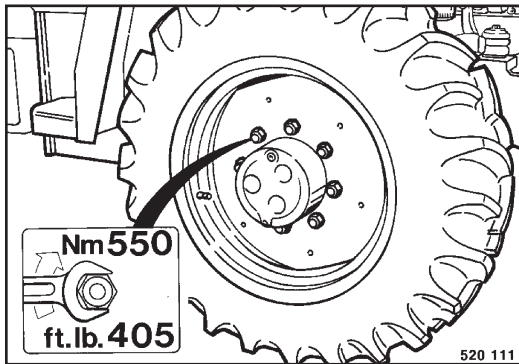

Fig. 170
- Attach the wheel (Fig. 170) and tighten the wheel nuts crosswise with 550 Nm (405 ft. lb.).